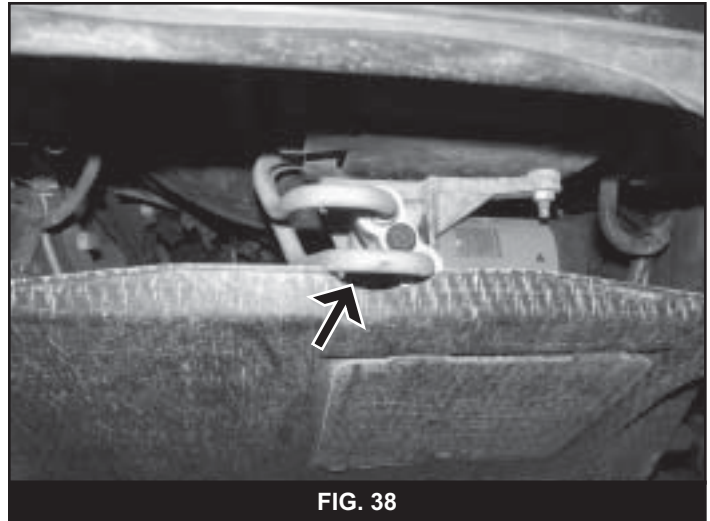

FIG. 38
90. Install the front skid plate in the original location with the six OE mounting bolts. Note: In some cases the skid plate may need to be trimmed slightly for oil line clearance as a result of lowering the oil filter location (Fig 38).